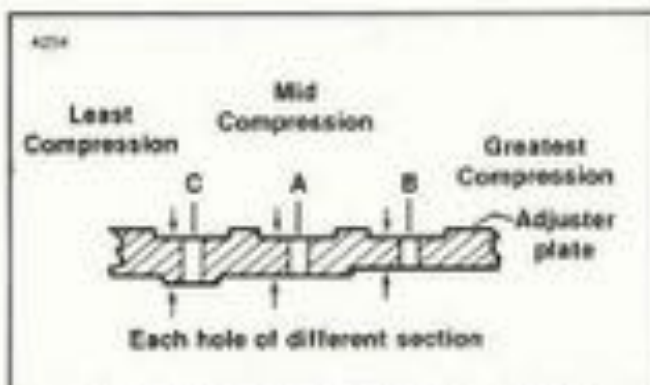

Figure 6-33. Adjuster Plate Hole Positions
1. See Figure 6-34. Lay a straightedge across the face of diaphragm spring (4). The spring should be flat within .010 in (See Figure 6-33). If the spring is bowed outward (convex), the adjuster plate is moved to the next hole position of greater compression. If the spring is dished inward (concave), the adjuster plate should be moved to the next hole position of less compression.